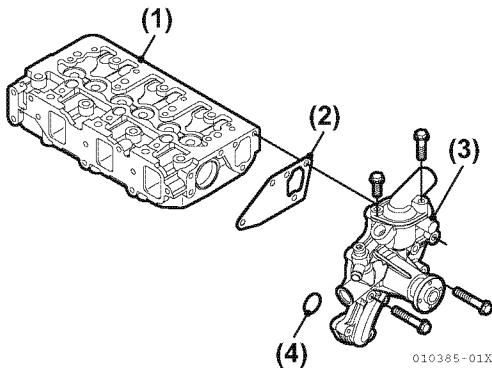

Figure 5-35
29. Remove the freshwater pump and gasket from the cylinder head (Figure 5-35).